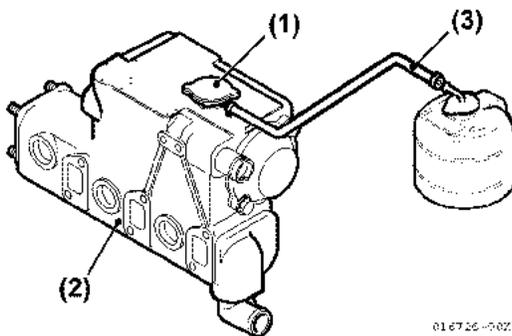

Figure 7-16
- WARNING! Burn Hazard. NEVER remove the coolant filler cap if the engine is hot. Steam and hot engine coolant will escape and seriously burn you. Allow the engine to cool before attempting to remove the filler cap.** Remove coolant filler cap (Figure 7-16, (1)) from heat exchanger (Figure 7-16, (2)).
- Check the rubber hose (Figure 7-16, (3)) connecting the coolant recovery tank to the heat exchanger. Be sure the hose is securely connected and there is no damage.